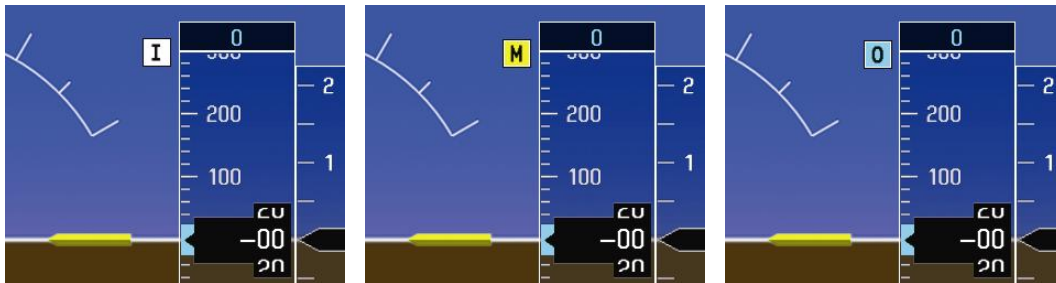

Figure 7-5. Marker Beacon Symbology
3. Verify that the outer, middle, and inner annunciations appear on the PFD when the corresponding signal is applied. Marker beacon annunciations appear at the upper left corner of the altitude indicator on the PFD as shown in Figure 7-5.